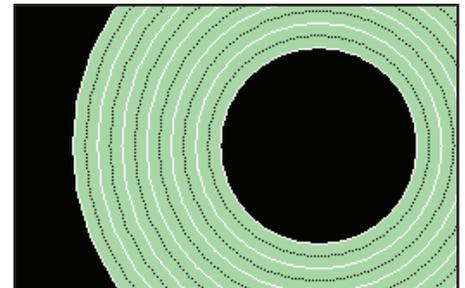

Figure 53: Result – solid fill for boss.
5.4.5. Generate toolpaths (Figure 53).